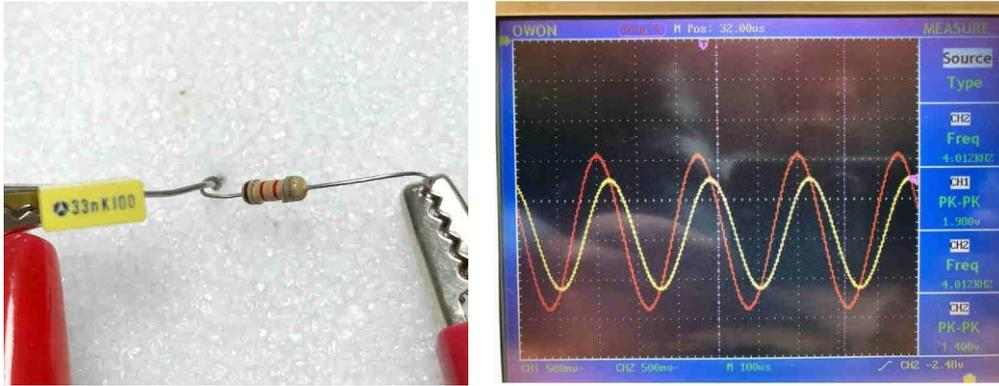

Figure 7: An Example of RC Filter.
Now, we set up a RC filter as in the Figure 7 ($R = 1.2 \text{ k}\Omega$). Then using function generator we give a sine wave at 2V peak-to-peak value as V_{in} and it is shown by red color wave (CH1) in the Figure 7. Using an oscilloscope, we measure the V_{out} value that is shown by yellow color (CH2). We would like to estimate the cut of frequency where V_{out} and V_{in} satisfy the equation (3). To do this we change the frequency of the function generator until we obtain $V_{out} = 1.4 \text{ V}$ [see equation (3)]. Finally, we find desired C value as 33 nH.